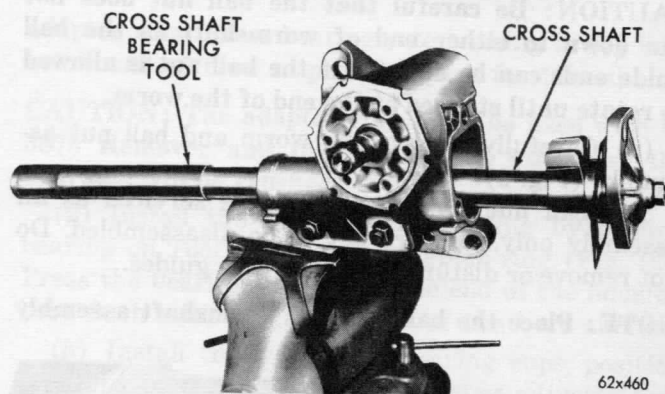

Fig. 7—Removing Cross Shaft (Tool C-3875)
arbor Tool C-3875 into the housing (Fig. 7).
(20) Place a new cover gasket on the housing cover.
(21) Carefully install the cross shaft and cover assembly into steering gear housing (Fig. 7).